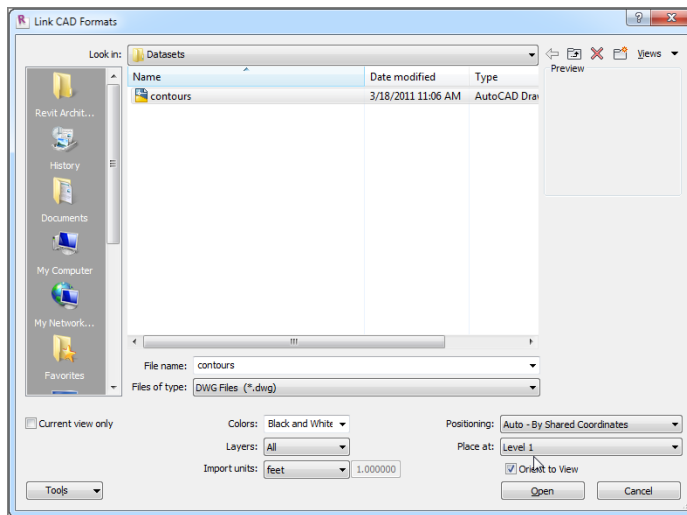

FIGURE 18.31: Changing the link settings
6. Make sure Orient To View is selected. (See Figure 18.31.)